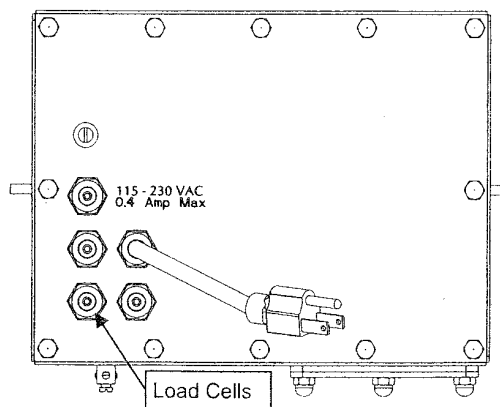

Figure No. 2
1. Remove the 12 acorn nuts securing the back panel to the main housing, then loosen the bottom-left cable gland connector for the load cell. This gland connector is located on the rear panel of the enclosure. Refer to Figure No. 2 for illustration of the connector layout.
1. Loosen the cable gland connector(s) for the serial cable. The gland connector(s) for the serial data are located on the rear panel of the enclosure. Refer to Figure No. 2 for an illustration of the gland connector layout.